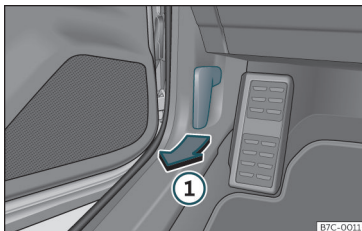

Fig. 254 Release lever in the driver's footwell area.
- Open the door and pull the lever under the dashboard »» Fig. 254 ①.